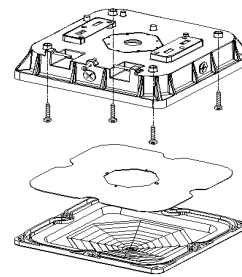

FIG.8
4. Replace the reflector and lens diffuser FIG.8 (Fasten the lens diffuser with twisting force no less than 13kgf.cm/1.275N.m)